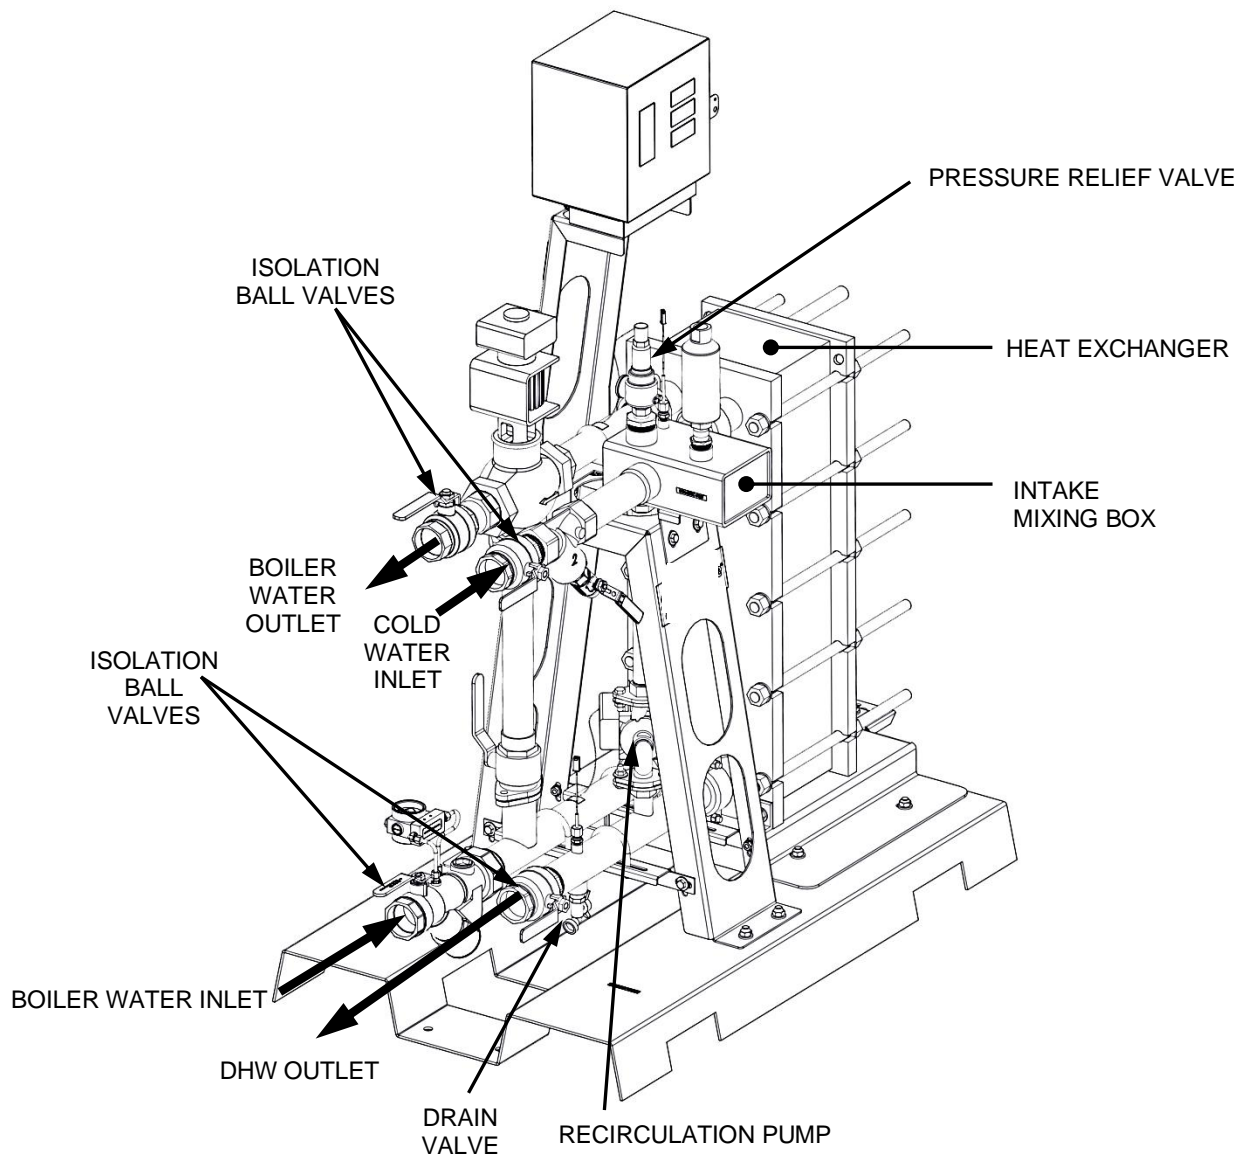

Figure 8-5. SmartPlate Double-Wall (Model SPDW61 Shown)
The maintenance procedures for SmartPlate Double-Wall models (Figure 8-5) include procedures for:
2. Close all four Water Heater Isolation Ball Valves (see Figure 8-5, above).